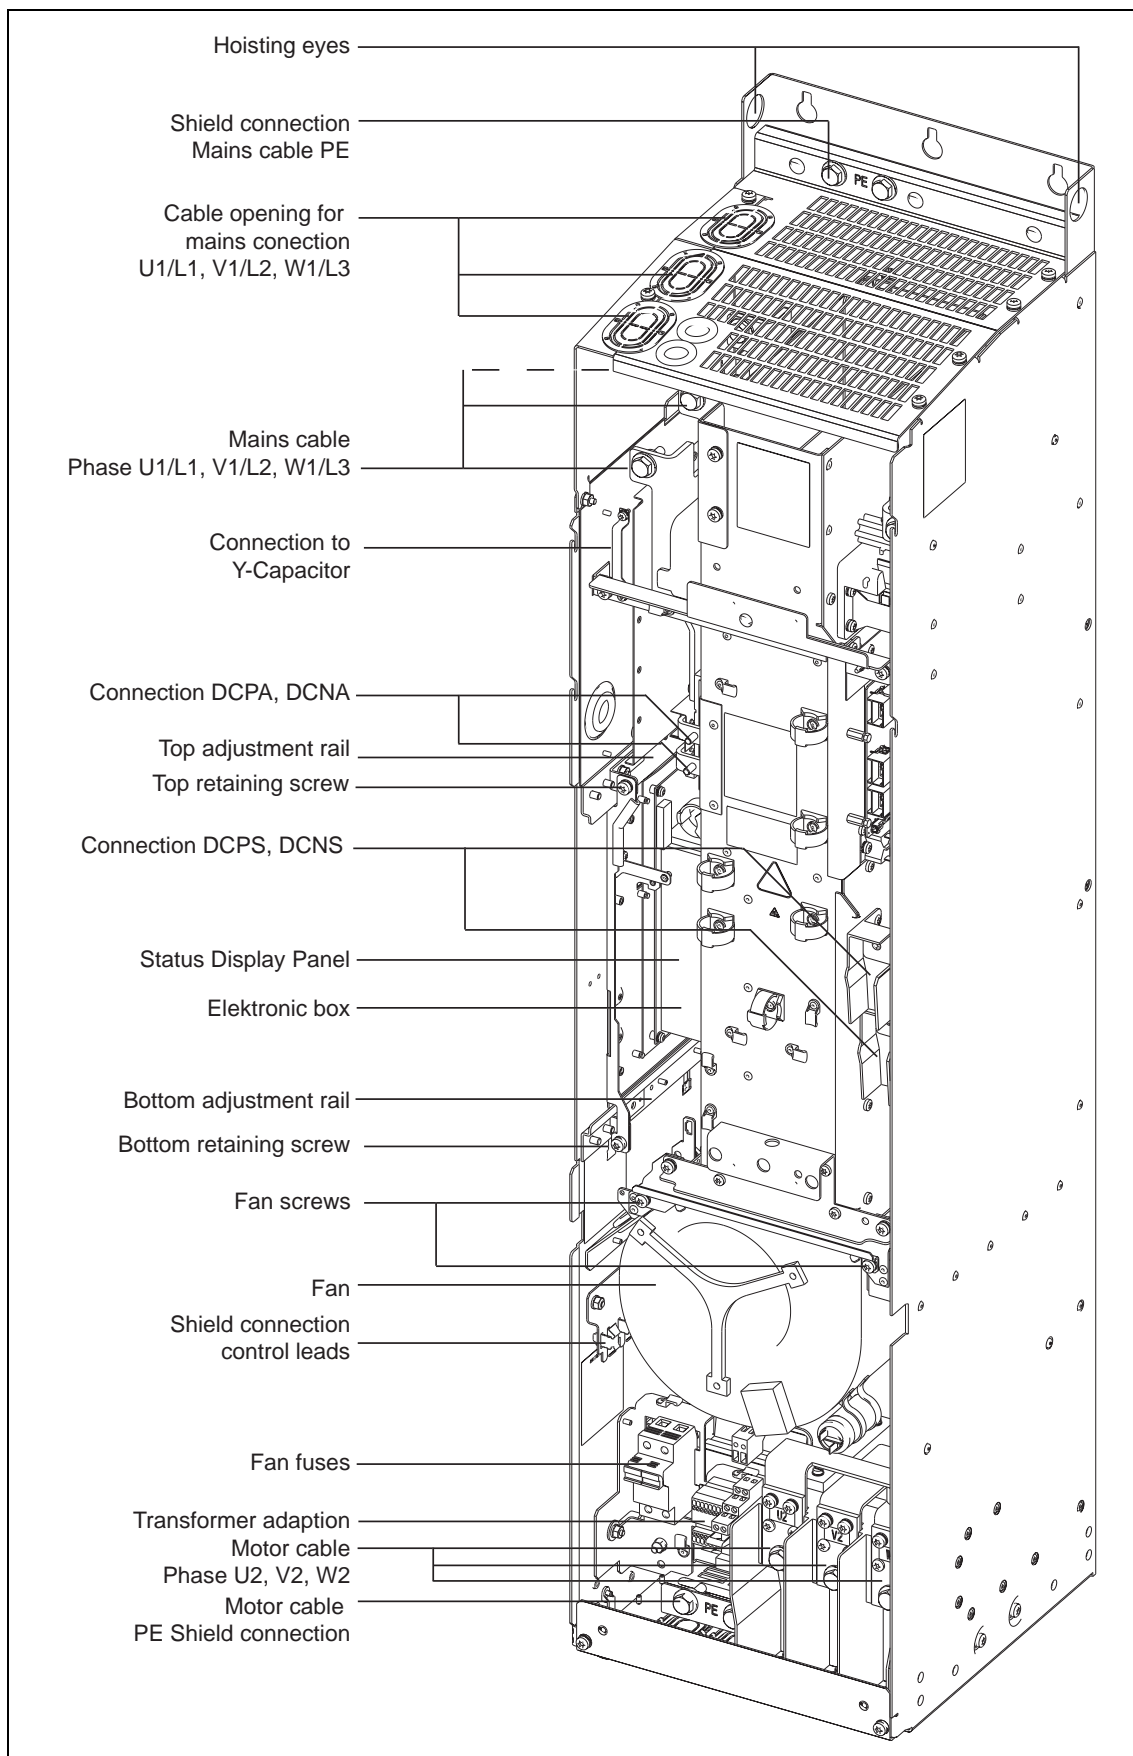

Fig. 2-6 Connection overview for Frame Size FX
- Connection overview for Frame Size FX (Fig. 2-6)